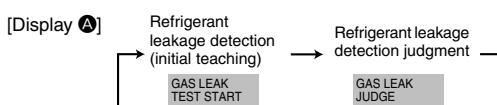

Fig. 8-2
- Press **④ CLOCK** button and select the [GAS LEAK TEST START] (Fig. 8-2)